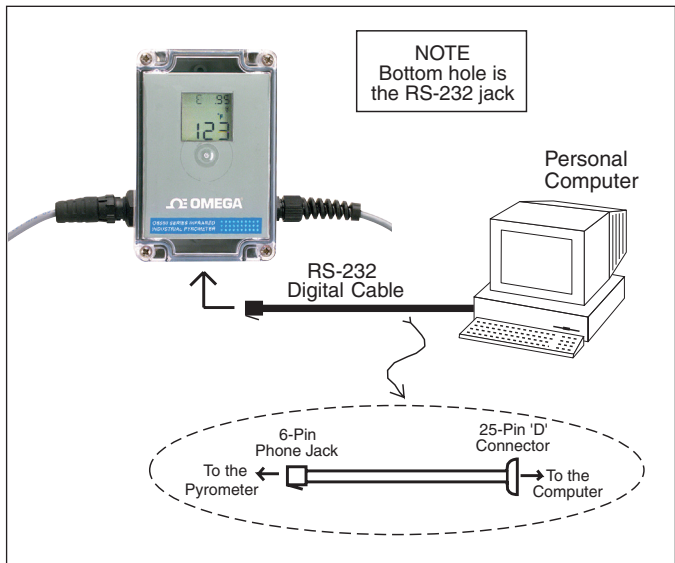

Figure 3-11. Personal Computer Hookup
- Connect the RS-232 cable between the thermometer and the serial port (RS-232 of the Personal Computer as shown below in Figure 3-11).